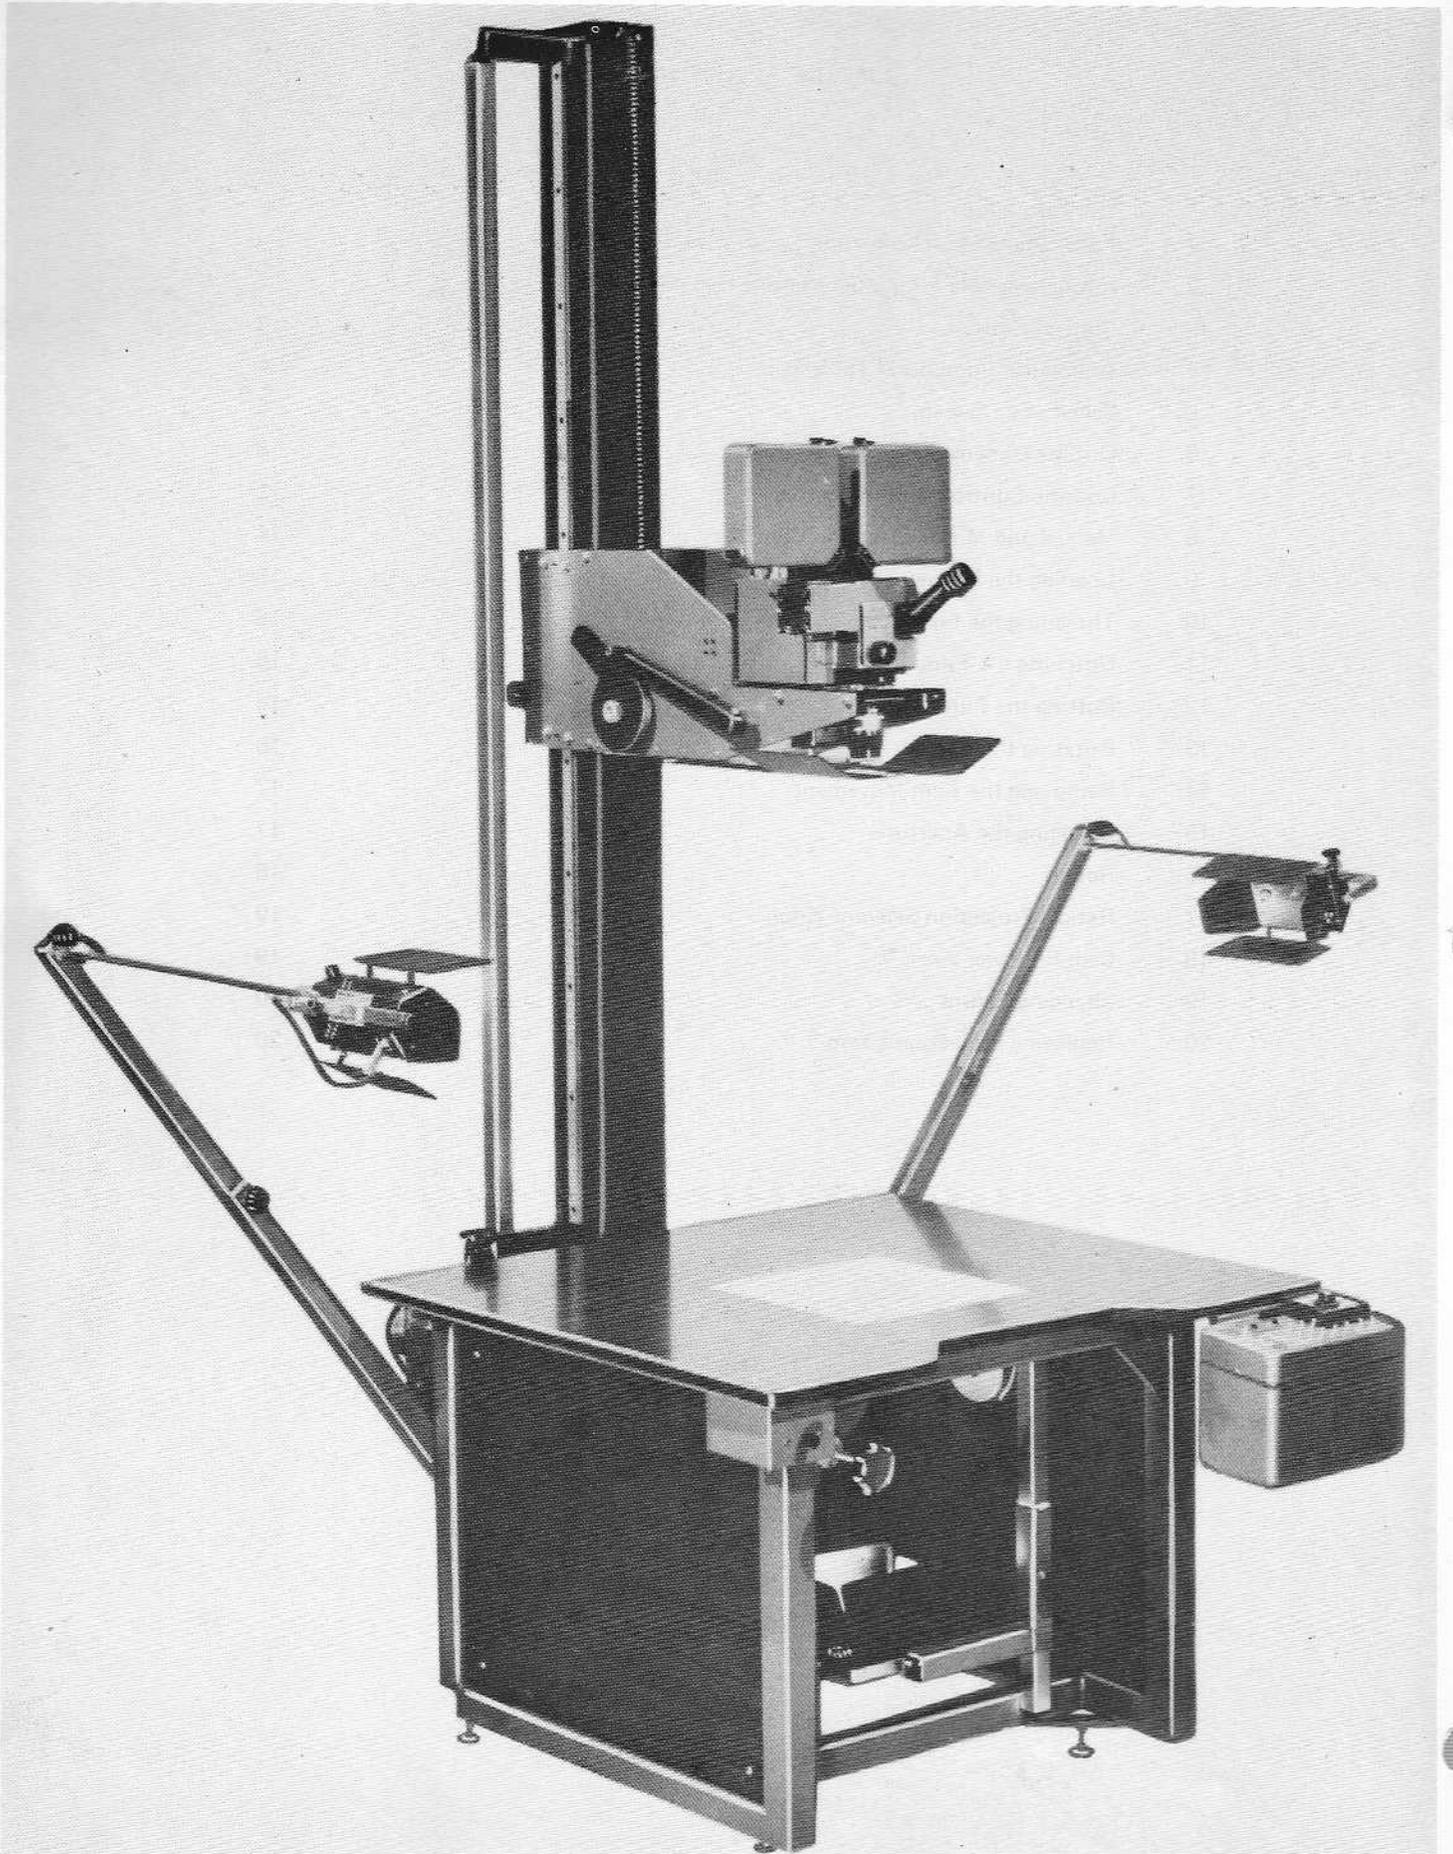

Figure 1. Forox Slide/Strip/Animation Camera and Copy Stand
2.1 The Forox camera (see Figure 1) contains all exposure, film advance and take-up mechanisms in a rugged aluminum housing. Exposures are controlled by a synchronous ¼-second rotary motion picture type shutter. A variable automatic timer extends the range to 15 seconds. For multiple exposures on the same frame, the shutter can be operated without advancing the film. The film is transported at a rate of 40 frames/minute for slides, 60 frames/minute for filmstrip or animation. The advance rate doubles when the shutter is turned off for rewind. An end-of-film switch deactivates and audibly signals the camera when the film supply is exhausted. A remote frame counter which operates in forward or reverse accurately indicates the number of the frame in the aperture. To facilitate automatic slide duplication, a preset counter permits continuous or single frame operation for a predetermined number of frames.